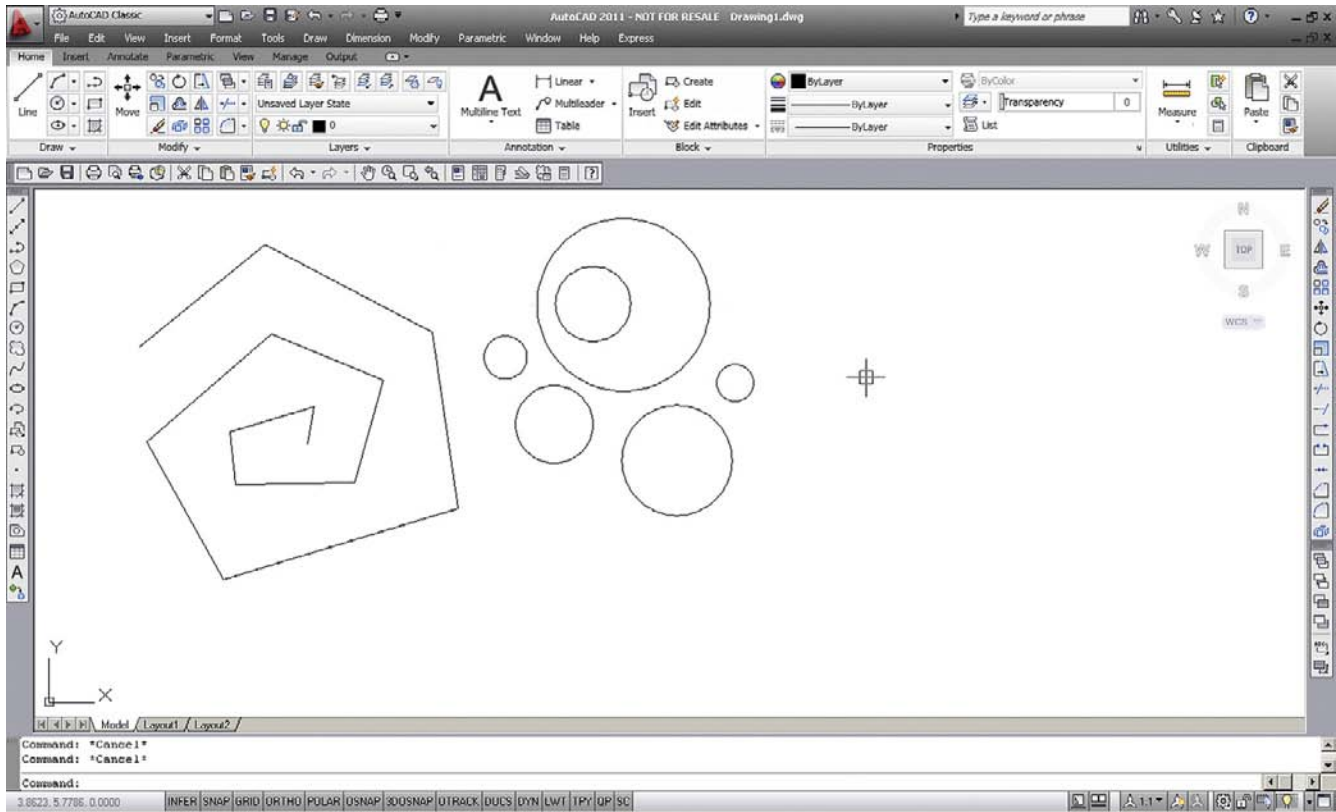

FIGURE 1.15
Step 3. Notice the circle that forms; it varies in size with the movement of your mouse. The value in brackets in the previous step may also be different; left-click again to finish the Circle command. Repeat Steps 1 through 3 several times, and your screen should look like Figure 1.15.